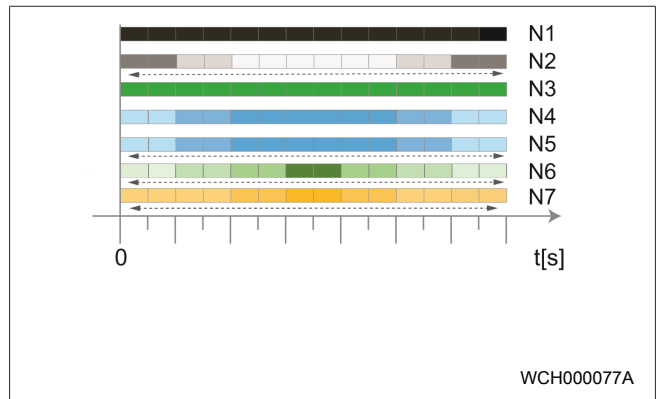

Fig. 15
- The LED changes from green (N3) to pulsing blue (N4). See Fig. 15.